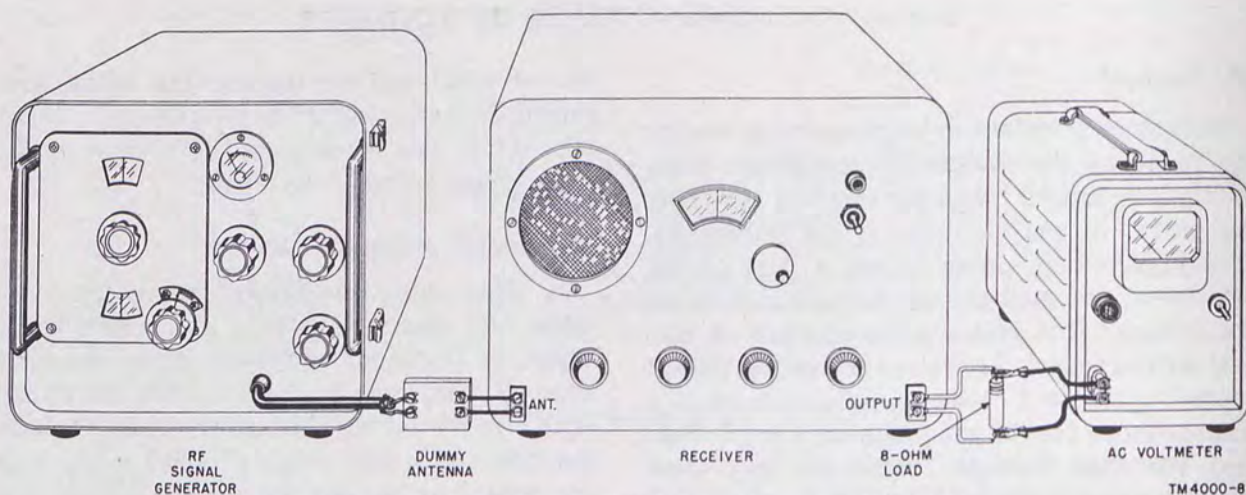

Figure 20. Checking receiver sensitivity by measuring output power.
c. Since the meter can indicate only the ac voltage across the resistive load, the technician must do some simple computations to find the power. However, the technician should know how to do it himself. Figure 20 shows a typical setup for checking the sensitivity of a receiver with an ac voltmeter used as an output meter. This test requires that the audio frequency (AF) output power be at least of a certain value when a standard modulated RF signal is applied to the antenna terminals. If the load resistance is 8 ohms and the minimum power output required is 100 milliwatts, the voltmeter must indicate .89 volt ac or more. This value can be found by using the formula $E = \sqrt{PR}$.